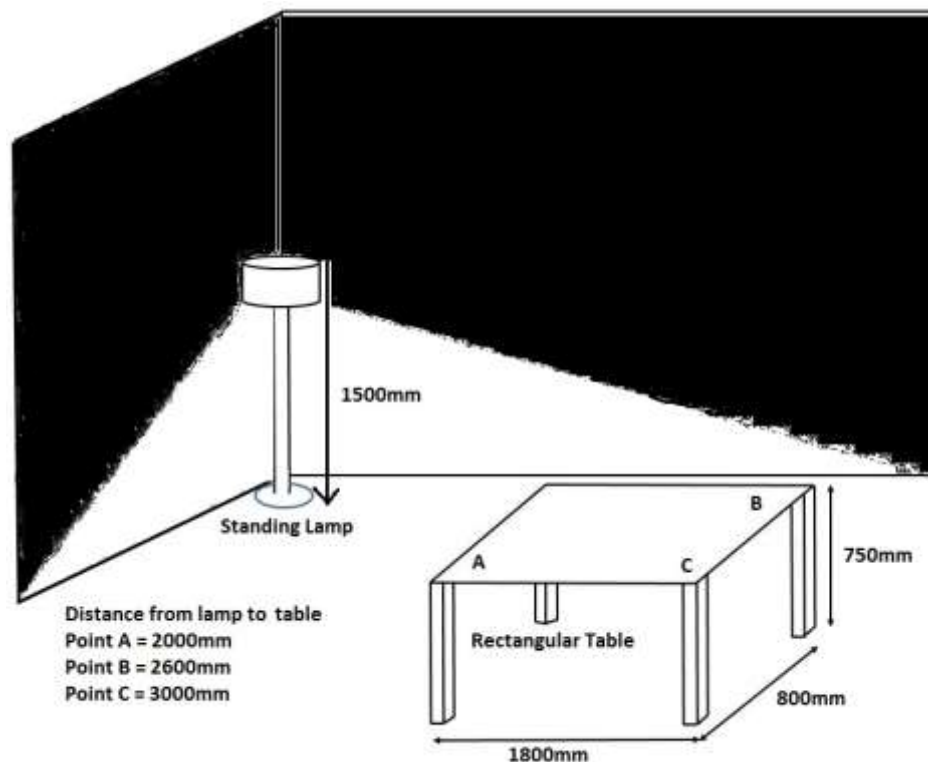

Figure 1 / Rajah 1
- (a) A standing lamp with a luminous intensity of 720 candela is located at the corner of a room as shown in figure 1. The height of the lamp is 1500mm tall. Nearby the lamp, there is a table with three (3) markings A, B and C on it. By using the configurations provided in the figure, calculate and identify clearly which of these markings records the maximum and the minimum illuminance.